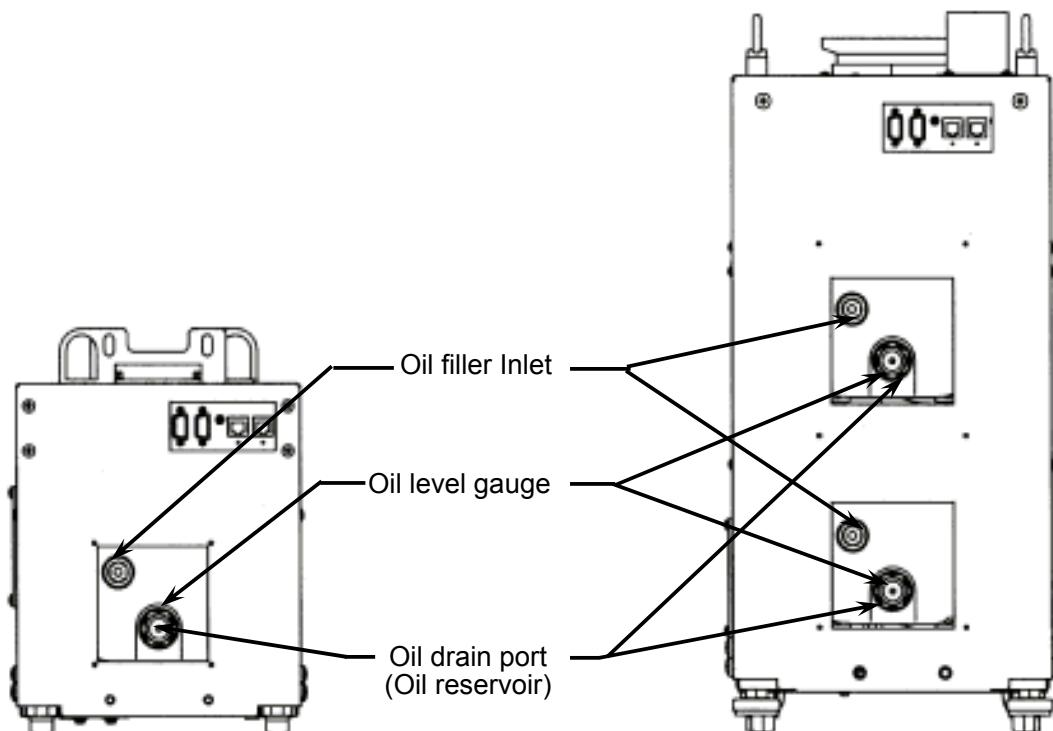

Fig. 7.2 Oil filler inlet, oil level gauge, and oil drain port positions
- (2) After you have waited until the internal pump pressure returns to atmospheric (normal) pressure, remove the plug from the oil-filler inlet. (See Figs. 7.2)
- (3) Check the level through the window of the oil level gauge. Then, add the oil so that the level is between the upper and lower limit lines (see Figs. 7.2 and 7.3).
- (4) After you have checked that there are no depositions and fragments adhering to the O ring attached to the plug, close the oil-filler inlet.
- (5) Please check the air leak after supplying lubricating oil.